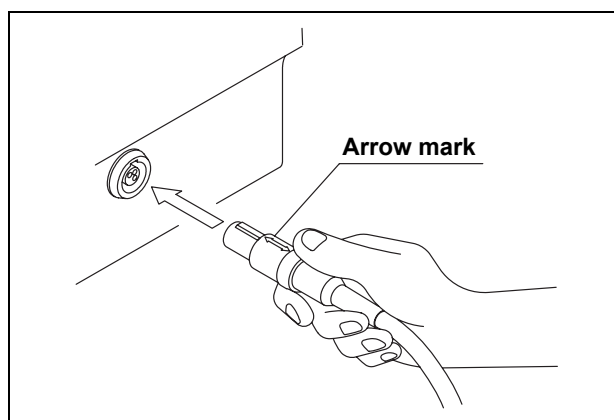

Figure 3.9
2. With the arrow mark on the S-cord's plug on the unit side facing upward, insert the plug into the S-cord connector on the electrosurgical unit front panel, until it clicks (see Figure 3.9).